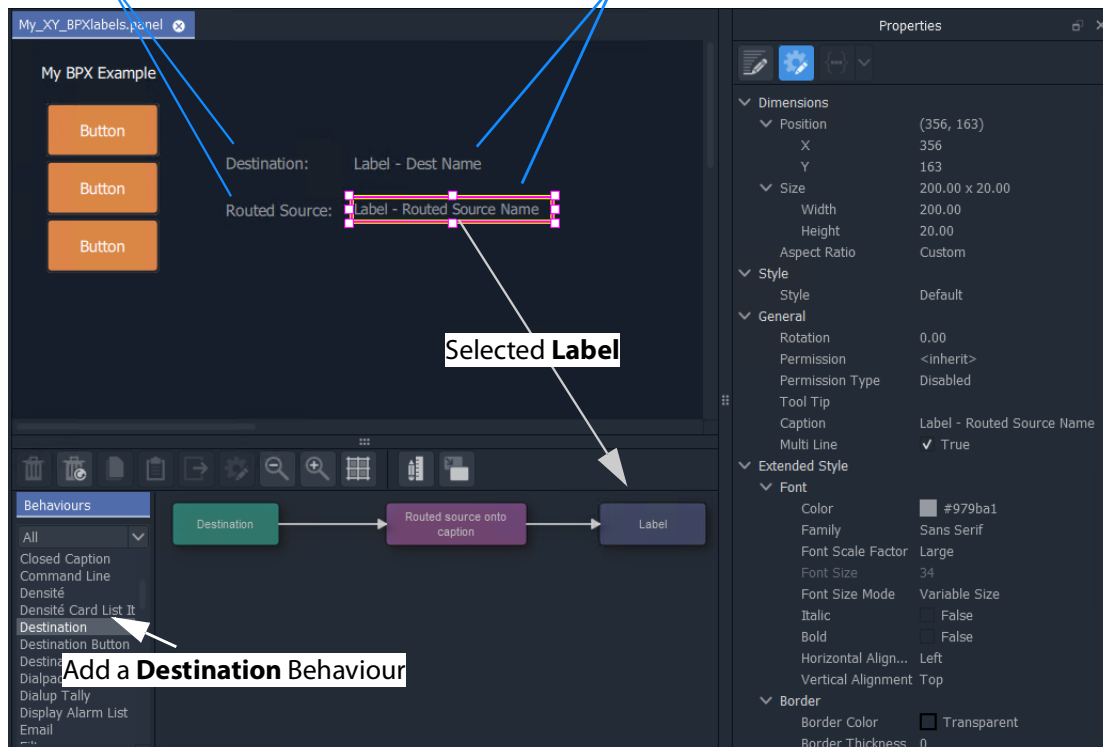

Fig. 6-55: Adding Labels
- 1 Add four **Label** widgets to the BPX panel. See Figure 6-55.
- 2 Set two labels to have fixed 'Caption' properties. See Figure 6-55.
- 4 Select one of the **Labels**. See Figure 6-55.
- 5 Add a **Destination** Behaviour. See Figure 6-55.